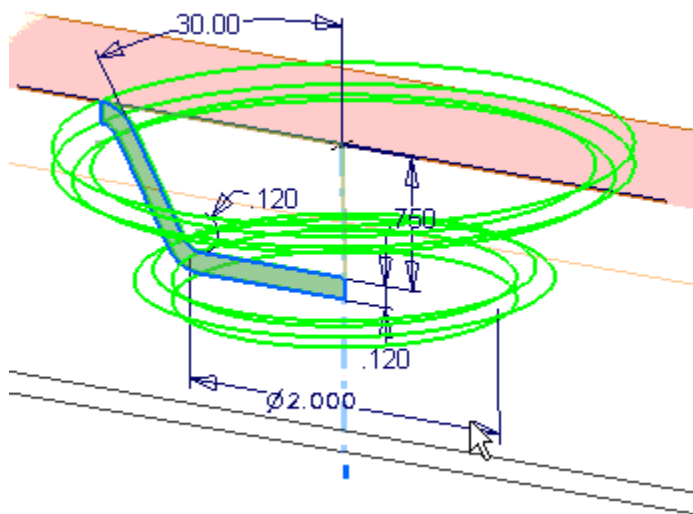

Figure 16: Revolved-feature preview.
14. Finally, press the R key to start the Revolved feature tool. Select the profile as shown in Figure 16. Select the centerline as the feature axis. Click OK to complete the feature.